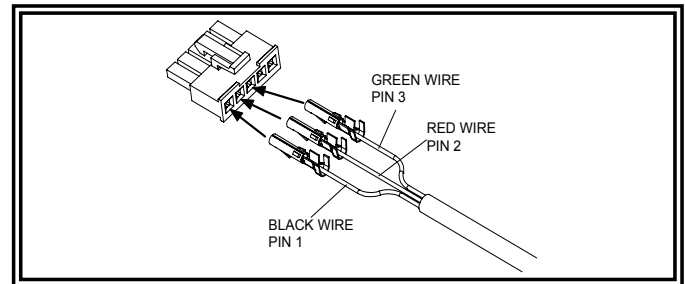

Figure 2
5. Connect the power wires as shown in the wiring section (see Figure 2).
6. Turn pins crimp side up, and insert pins into connector as shown in Figure 2.